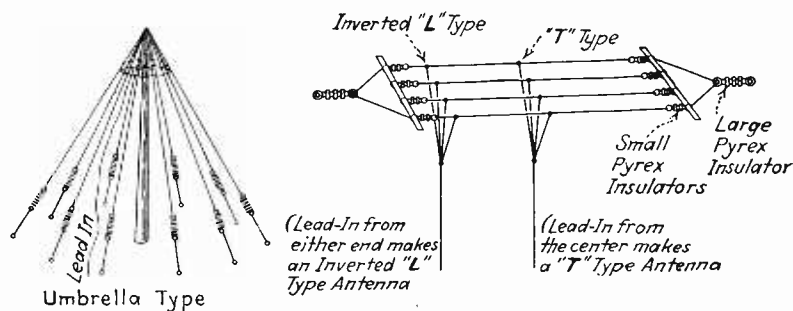

FIG. 29.—Antenna systems.
Ans. Three types of antenna systems (transmitting) are the inverted L (T), the T, and the umbrella. Figure 29 illustrates these three types. These are all Marconi type radiators.